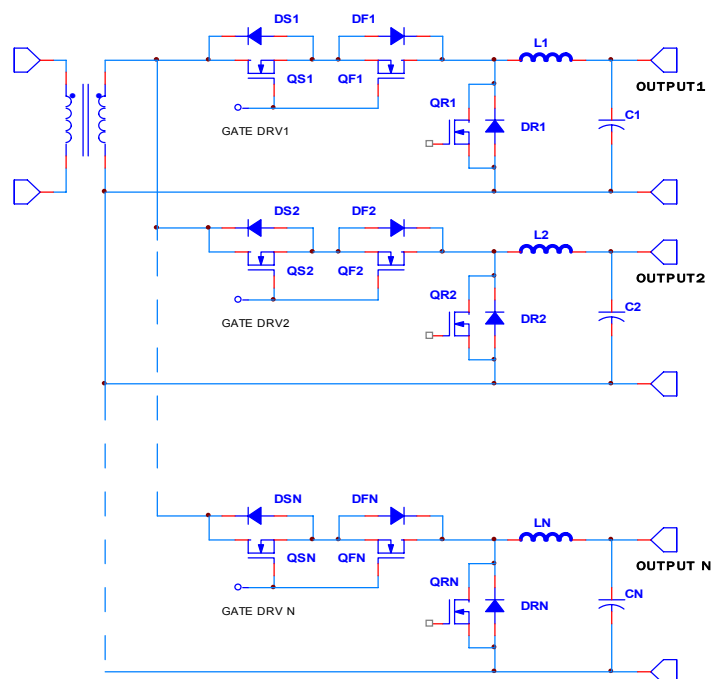

Fig 12) Generating Multiple Outputs from the same secondary winding using Combi Sync Topology
c) It is possible to have multiple sets of synchronous FETs attached to the same transformer secondary and control them individually as shown in Fig 12. This way multiple secondary outputs with a common ground can be regulated off the same secondary winding.